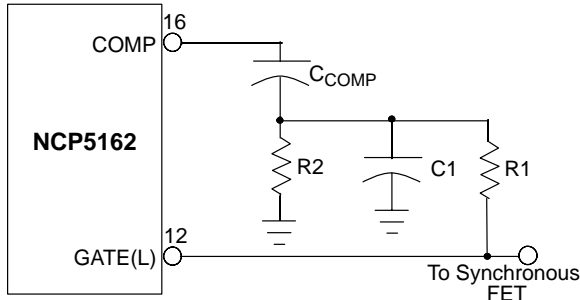

Figure 18. Small RC Filter Provides the Proper Voltage Ramp at the Beginning of each On-Time Cycle
The circuit that implements this function is shown in Figure 18.
The ramp waveform is generated through a small RC filter that provides the proper voltage ramp at the beginning of each on-time cycle. The resistors R1 and R2 in the circuit of Figure 18 form a voltage divider from the GATE(L) output, superimposing a small artificial ramp on the output of the error amplifier. It is important that the series combination R1/R2 is high enough in resistance not to load down and negatively affect the slew rate on the GATE(L) pin.